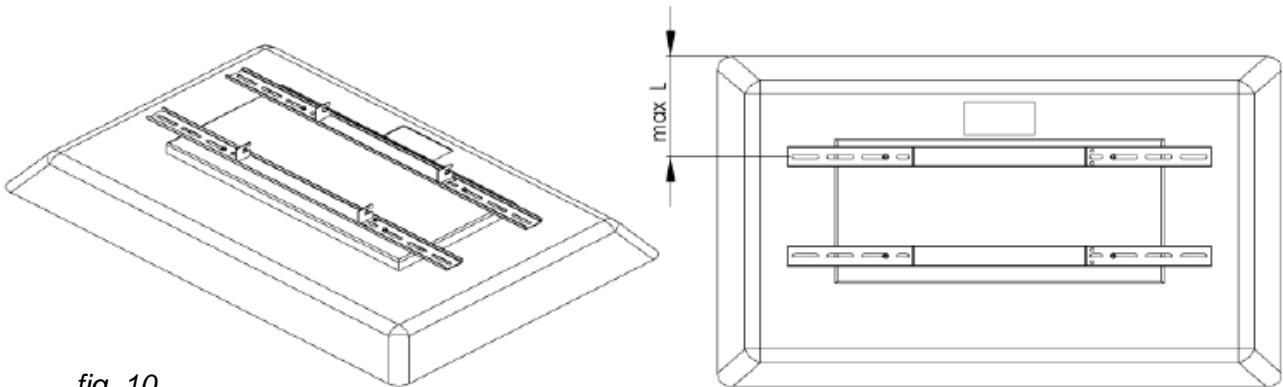

fig. 10
- Adjust the top screws so that the max. L value is not exceeded (fig. 4). The L value is the distance from the top mounting holes on the back of the TV to the top edge of the TV (page 21, fig. 10). Tighten the upper handles in the rails at the same height, leave the lower handles loosely for adjustment.
10. Using the screws, attach the horizontal beams to the back of the TV (fig. 10 – you can use the screws supplied with the TV or select the screws in accordance with the TV producer's recommendation). You can use the provided washers if needed.